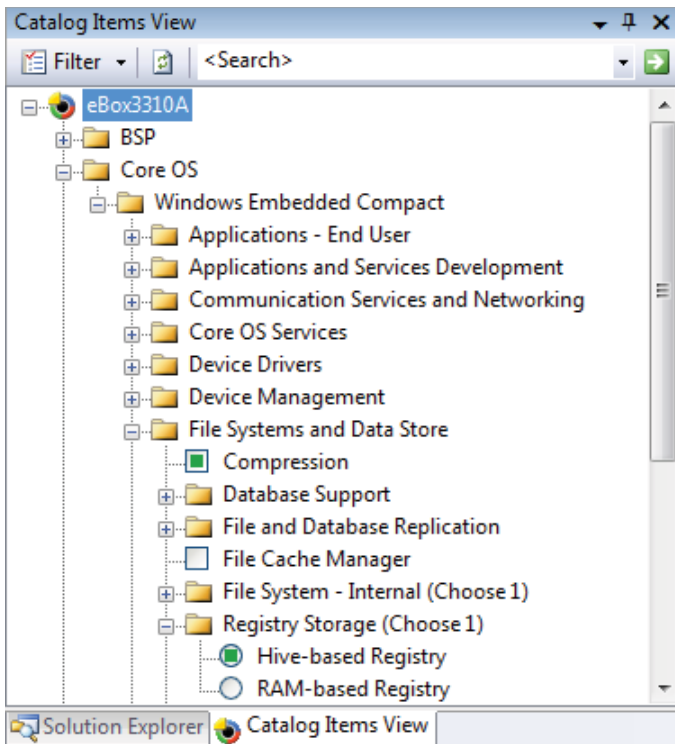

Figure 2 – Catalog Items View
- Configure the OS design – The VS2008 IDE provides a graphical user interface for you to add or remove device driver, OS and application components to the OS design. The Catalog Items tab on the VS2008 IDE provides a developer-friendly, visual interface to select components for the OS design, as shown in Figure 2.